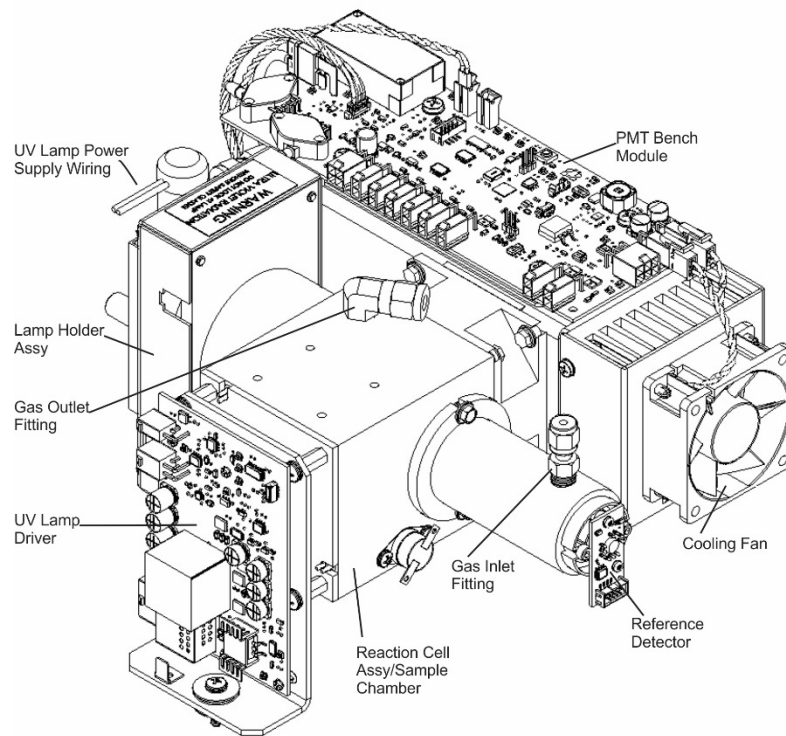

Figure 5-24. N100 Sensor Module
3. Disconnect the sensor module pneumatic lines (refer to Figure 5-24)